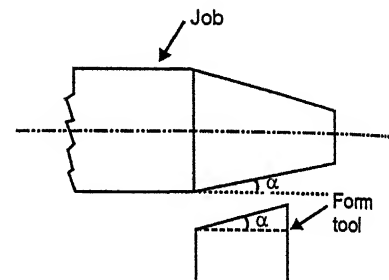

Fig. 10.18. Taper turning by a form tool.
- In this method of taper turning (Fig. 10.18) a broad nose tool having straight cutting edge is set on the work at half taper angle and is fed straight into the work to generate a tapered surface.